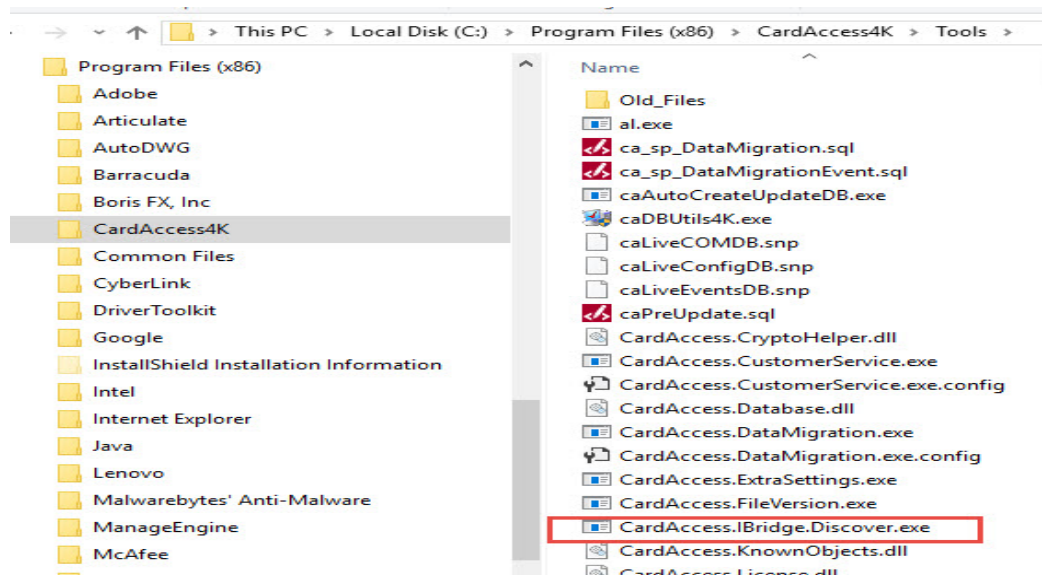

Figure 2.
1. Use the CardAccess.IBridge.Discover.exe utility in the CardAccess4K>Tools folder and search for the IBR-ZREMOTE unit (Refer to the figure 2).